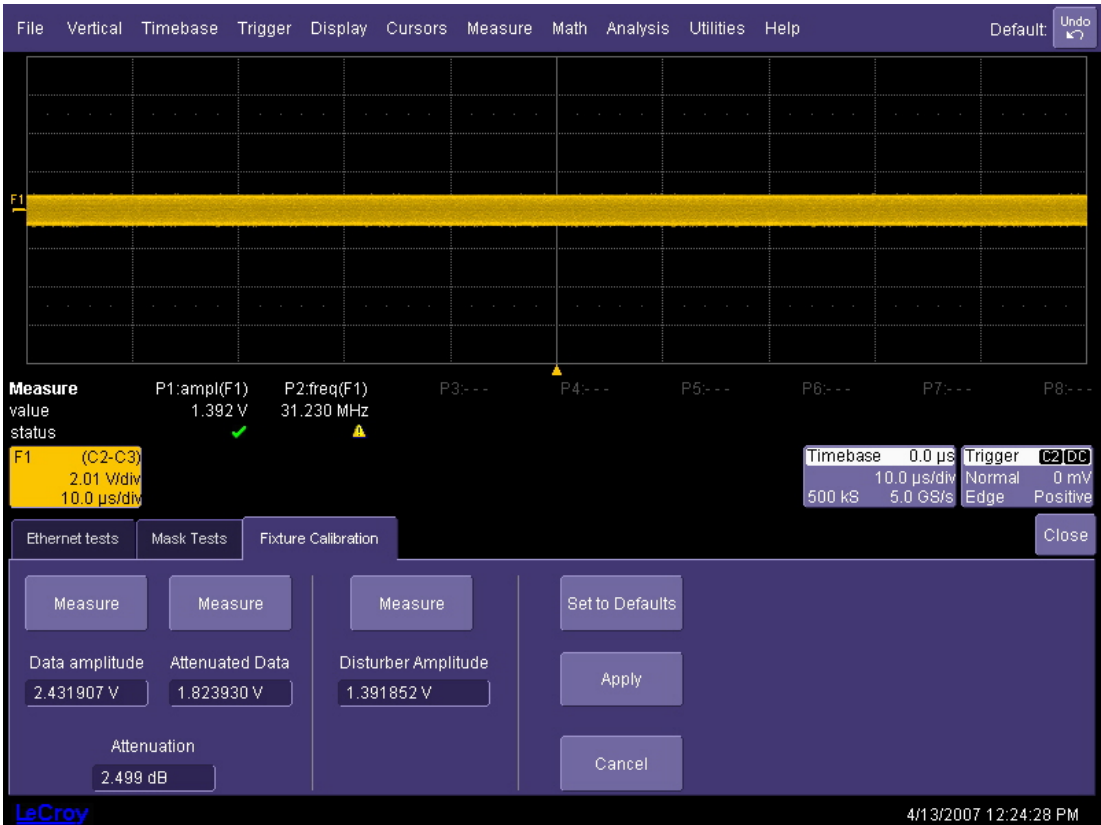

Figure 41. Setting the disturbing signal level for mode 1 test
6. Transmit signal with disturbing sine wave should look like the picture shown in **Figure 41**. Select **1000Base-T** under “Select Standard.”
6. Transmit signal with disturbing sine wave should look like the picture shown in **Figure 41**.